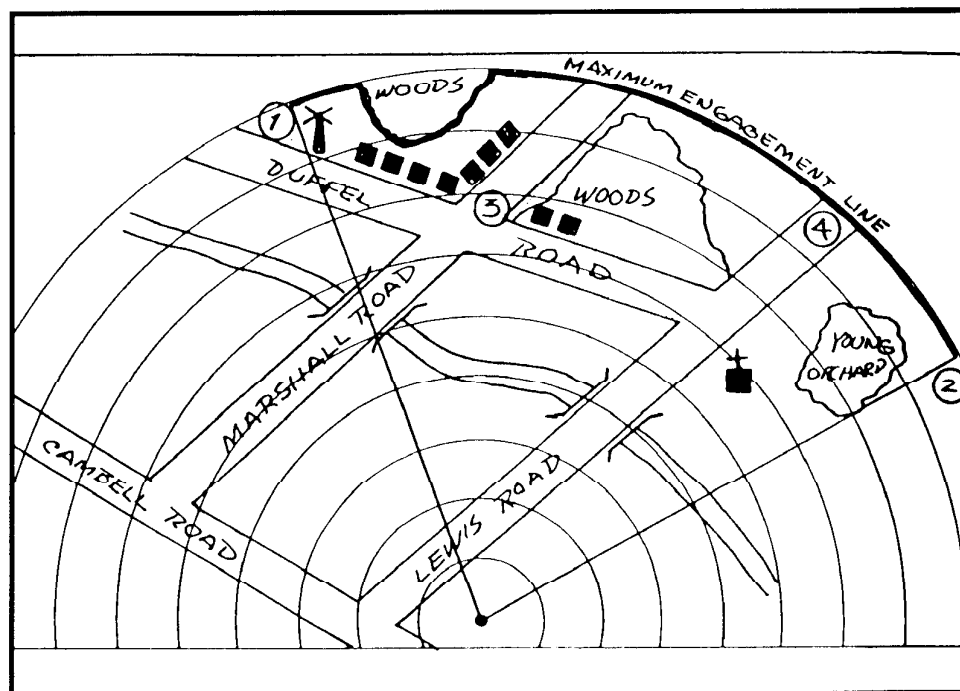

Figure E-5. Numbered target engagement locations.
d. Number the anticipated target engagement areas (ATEAs) from left to right, starting with number 3. Place a number at the maximum engagement range of the target on the range card and circle the number (Figure E-5, page E-6).